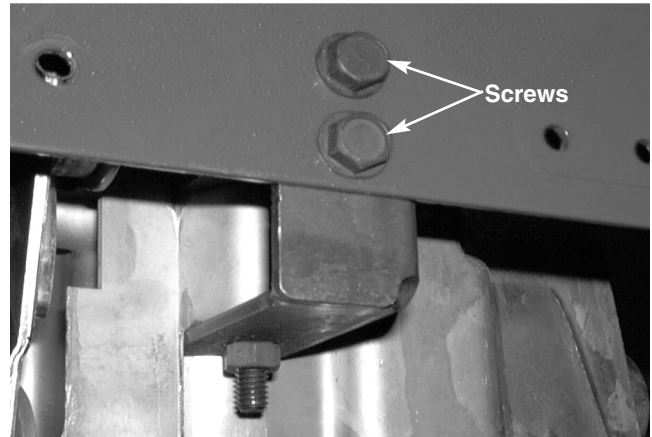

FIGURE 7.
22. Remove both self tapping screws securing the front of the hydrostatic transmission to the front hydrostatic support bracket using 1/2" socket. See figure 7.